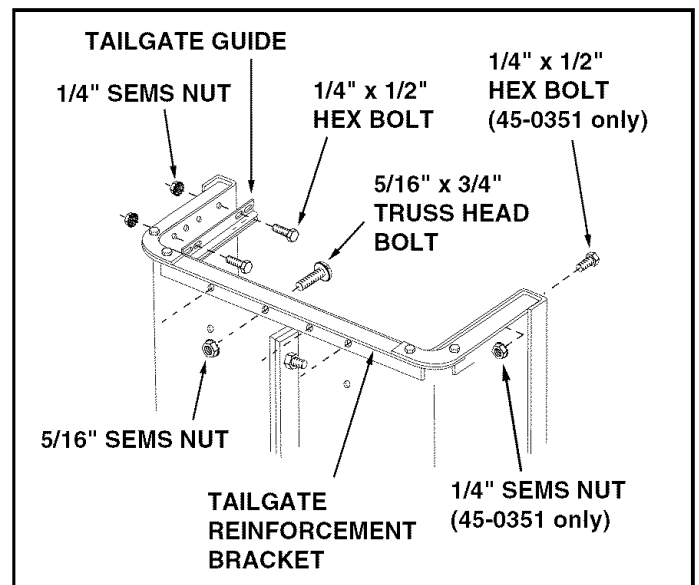
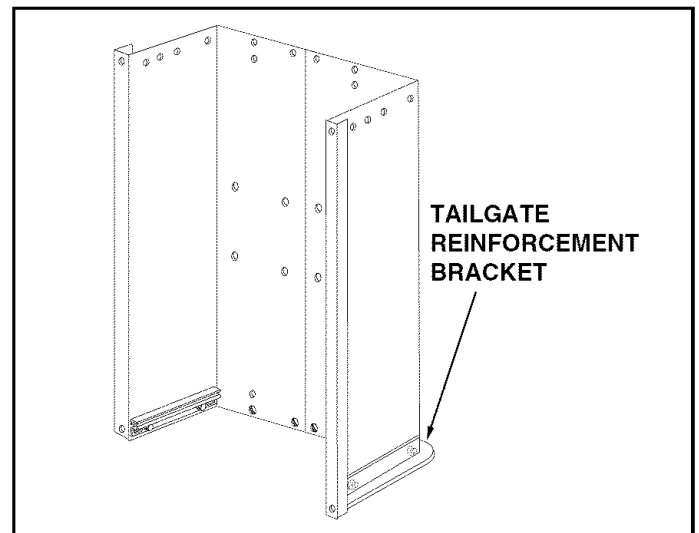

FIGURE 2
FIGURE 3
5. Position the tailgate reinforcement bracket on outside of cart as shown in figure 3. Assemble to the bottom of the cart body using four 5/16" x 3/4" truss head bolts and 5/16" SEMS nuts. **Do not tighten yet.** See figure 2.
6. Position the tailgate guides on the inside of the cart bodies with guide channels to the front. Assemble using four 1/4" x 1/2" hex bolts and 1/4" SEMS nuts. **Do not tighten yet.** See figure 2.
7. **(45-0351 only)** Fasten the ends of the tailgate reinforcement bracket to the top flange of the cart using two 1/4" x 1/2" hex nuts and 1/4" SEMS washers. See figure 2.
9. Carefully turn the cart over so that the tailgate reinforcement bracket is on the bottom. See figure 3.